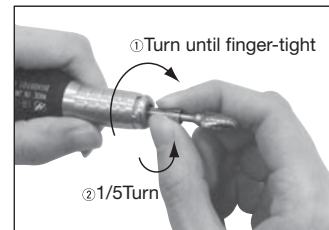

Fig. 11
Apply a thin coating of oil to the chuck before installation. Open the Bur Lock Ring, insert a dummy bur or cutting tool into the chuck and then turn the chuck clockwise by hand until it stops. Next, turn the chuck back, counterclockwise, about 1/5 of a turn to allow the bur to be easily released when the chuck is open. Finally, turn the Bur Lock Ring until it clicks, locking the bur in place. (Fig. 11)
* The chuck's clamping force can be adjusted as shown in Fig. 11, if the bur slips or the bur can not be removed, make adjustments as shown above.